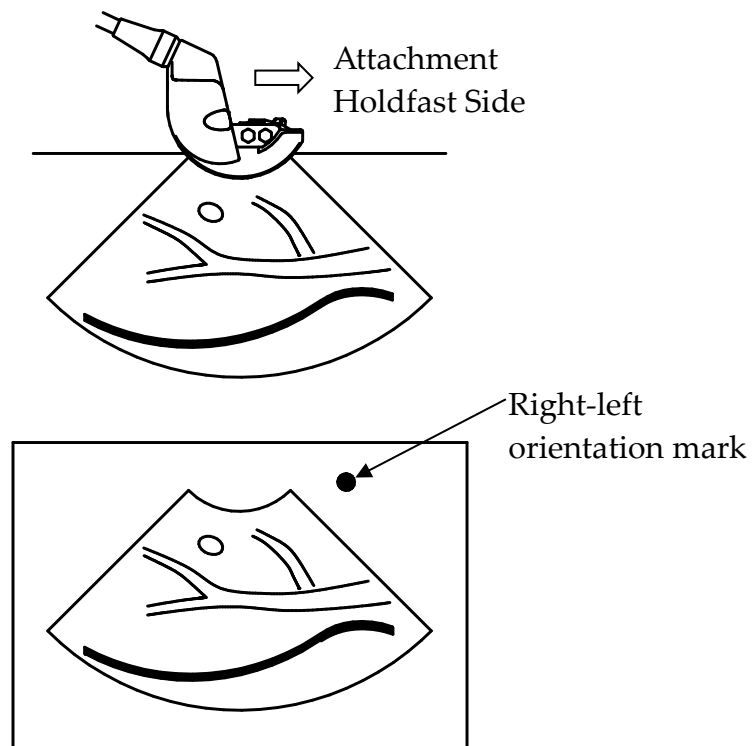

Fig.3 Relationship between the direction of the probe and the Right-left orientation mark
- 5) Confirm the direction of the probe. Relationship between the direction of the probe and the image is shown in Fig.3. The Right-left orientation mark on the image indicates the direction of the attachment holdfast side on the probe.